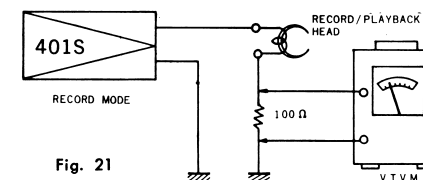

Fig. 21
Measuring Circuit: Refer to Fig. 21.
- As shown in Fig. 21, insert 100 Ω Resistor to ground Lead Wire of Record/Playback Head, and connect VTVM across Resistor.